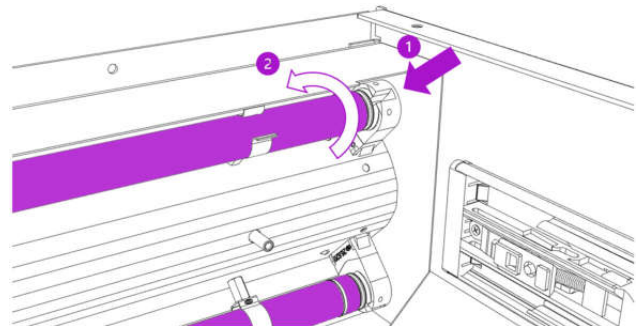

Fig. 18
- Install new UV-C lamps as indicated in Fig. 18 (1). Turn UV-C lamps in direction of arrow (2) until you hear a clicking sound. **Notice: Li.LAC will only operate if both UV-C lamps are installed.**